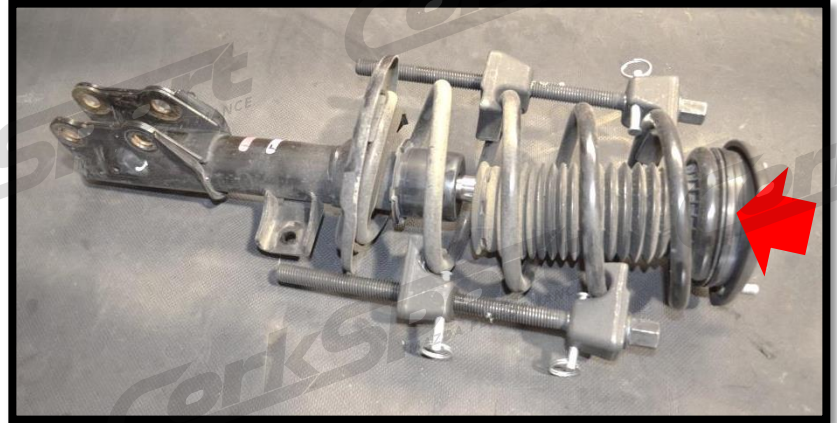

Figure 3a
- a) Use a spring compressor to compress the spring until it is no longer tight against the upper mount (Figure 3a).
- a) Use a spring compressor to compress the spring (evenly on both sides) until it is no longer tight against the upper mount (red arrow in Figure 3a).
b) Place a jack under the rear control arm and jack up the control arm slightly (shown with red arrow in Figure 3a).
c) Remove the sway bar end link from the control arm with a 14mm wrench (green circle in Figure 3a).
d) Remove the 17mm bolt that holds the spindle to the control arm (red circle in Figure 3a) using a 17mm socket and ratcheting wrench.